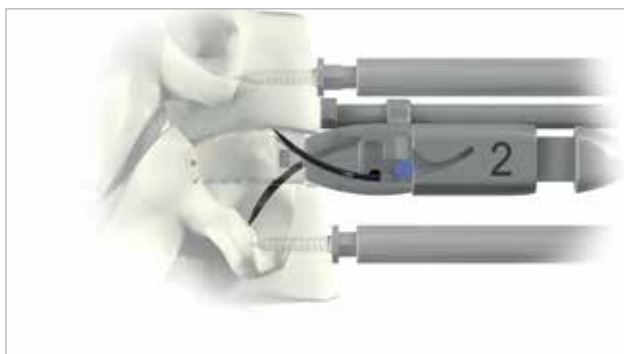

Figure 15a
- Position the awl impactor already loaded with the starter awl plate so that the blue retaining pin is oriented downwards and sliding encasement labeled with a #2 faces outward (**Figure 15a**). Ensure that the starter awl plate is pulled distally to the end of the starter awl impactor and slide the encasement forwards so that the starter awl plate fits snugly into place.